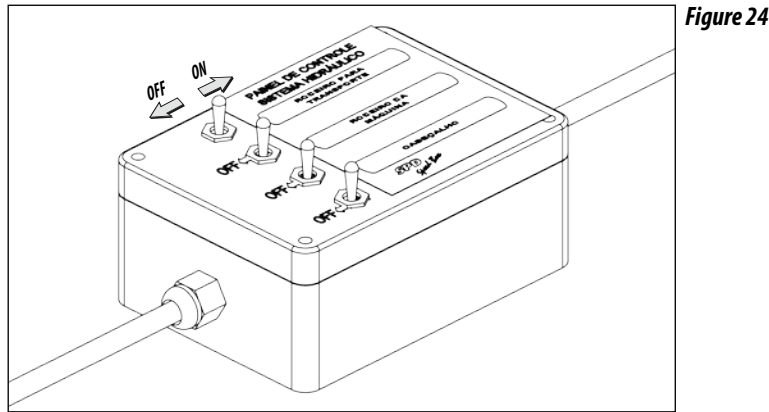

Figure 24
41 - Attach the control panel (1) to a place of easy access and that does not interfere or disturb the handling of the tractor controls figure 24.